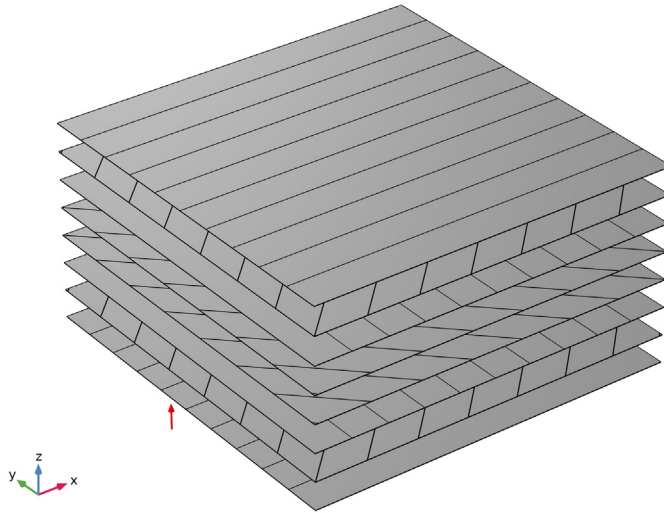

Figure 2: Stacking sequence $[0/45/90/-45]_s$ in hub-spoke region.
- Hub and spokes: $[0/45/90/-45]_s$ (Figure 2)